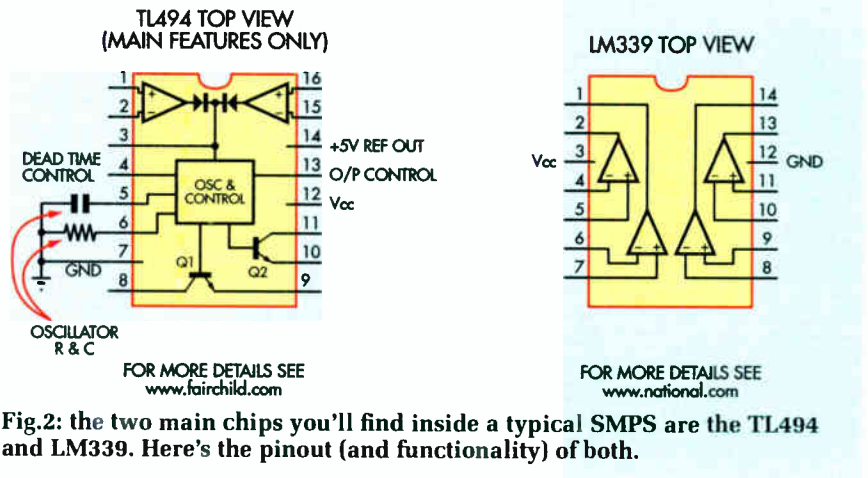

Fig.2: the two main chips you'll find inside a typical SMPS are the TL494 and LM339. Here's the pinout (and functionality) of both.
The IC contains an oscillator capable of operating between 1kHz and 300kHz. The frequency is controlled by an RC network on pins 5 (C) and 6 (R) – see Fig.2.